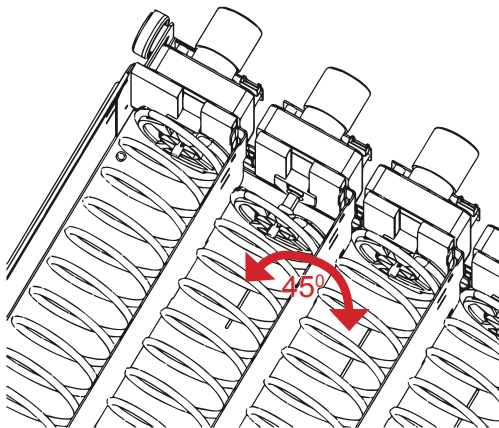

Fig.34
- Remove the optical part of the BNA (see fig 34) and use a brush to dust the receptor channel;